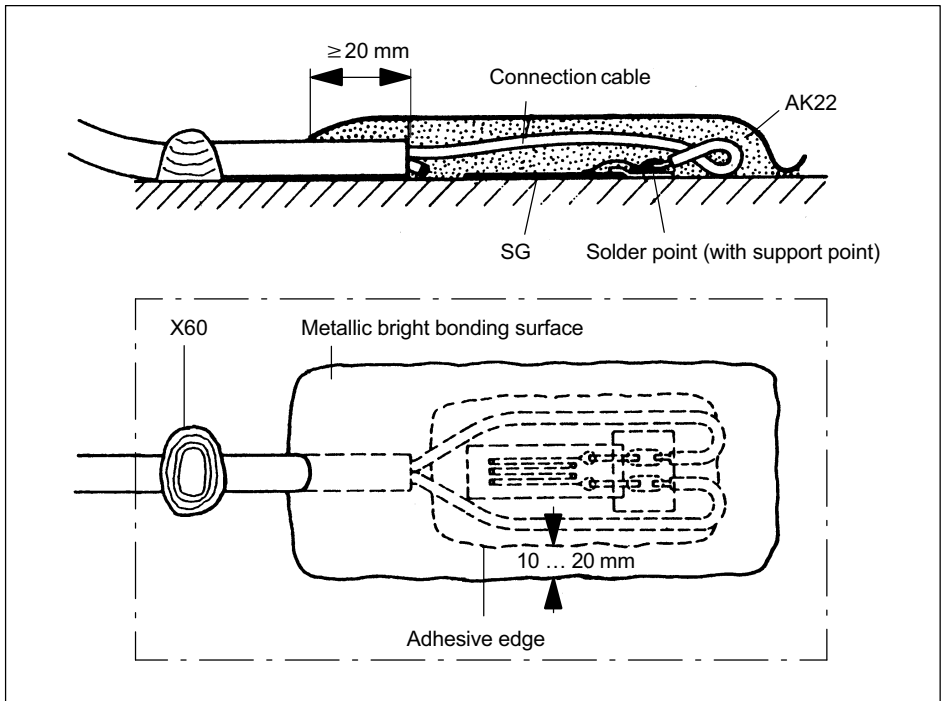

Fig. 4.1 SG measuring point covered with AK22
- ▶ The connection cable and the cable sheath in the area of the measuring point must also be degreased. Prepare the cabling of the measuring point as shown in *Fig. 4.1 on Page 7*.
Kneading must be implemented very carefully to avoid leaving any fine channels that could be penetrated by moisture. The putty must extend approx. 10 to 20 mm past the measuring point, including over the adhesive edges (see Fig. 4.1).